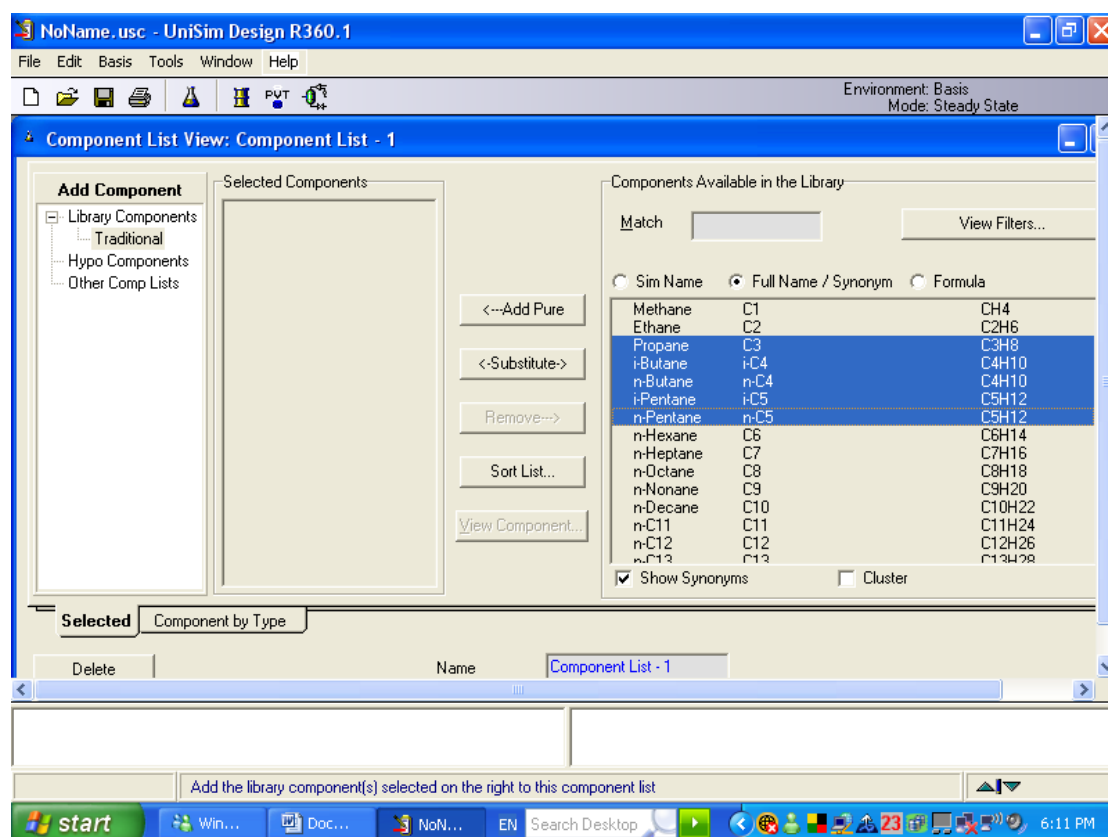

Figure K-8. Snapshot of the component List View window showing the components.
Step 8. Click on the Add Pure button to select the components as highlighted in Figure K-8. Close the window